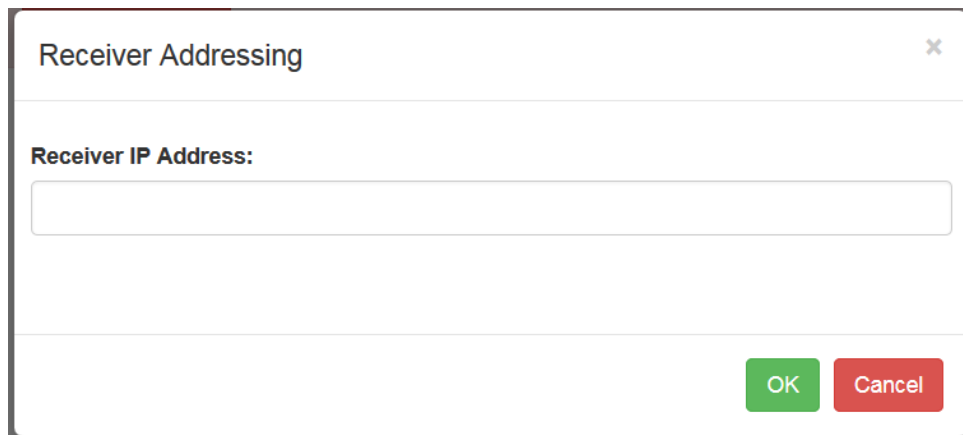

Figure 315: Receiver Addressing Window
3. When the Receiver Addressing window displays (Figure 315), type the correct IP address in the Receiver IP Address field, then click on the OK button. The IP address requested is located on the front panel Main Menu > System Settings screen.